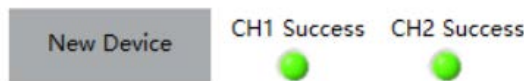

Figure 5.2.9 New Device
- Click the "New Device" button to erase the existing angle programming data inside the chip. (If it's the first time programming the chip, you can skip this step to simplify the process and save programming time.) After the erasure is complete, the "Restore Complete" indicator light will turn solid green (Figure 5.2.9).